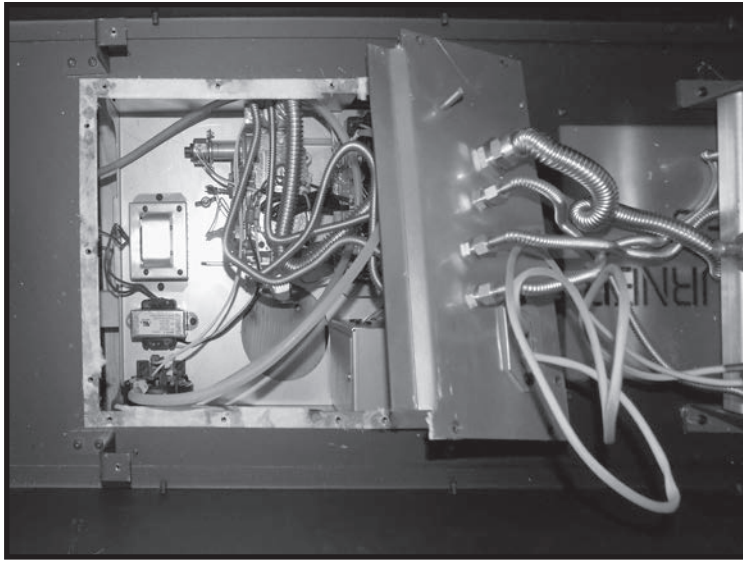

Figure 47: Small plate lifted to provide access to connector.
3. Remove screws for the small cover panel and lift the panel and flexible gas lines enough to be able to get your hand underneath it (Figure 47).